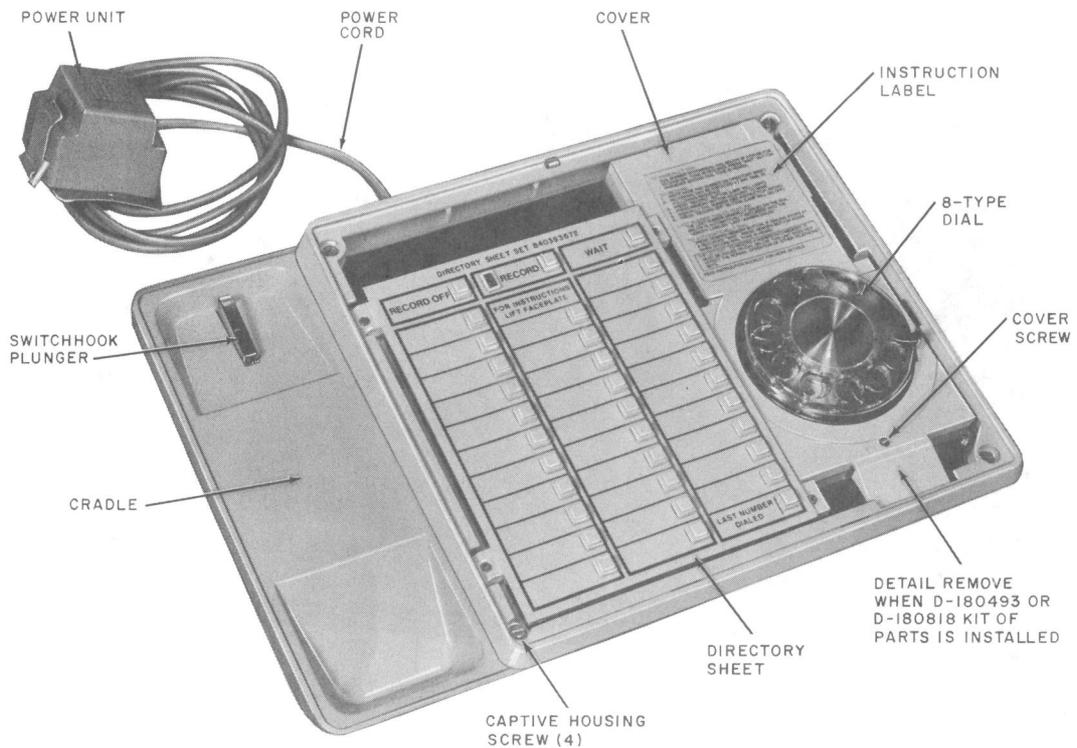

Fig. 2—870A2M Telephone Set—Faceplate and Handset Removed
3.05 The directory sheets (Fig. 2) fit over the buttons of the Memory and are held in place by the faceplate. Additional sheets are available in the directory sheet set, 840393672.
- (5) Make connections per Table C, E, or F.
- (6) Break off the detail at the bottom of the cover (Fig. 2) and trim edge as required.
- (7) Verify correct operation of option.
- (8) Reassemble set.